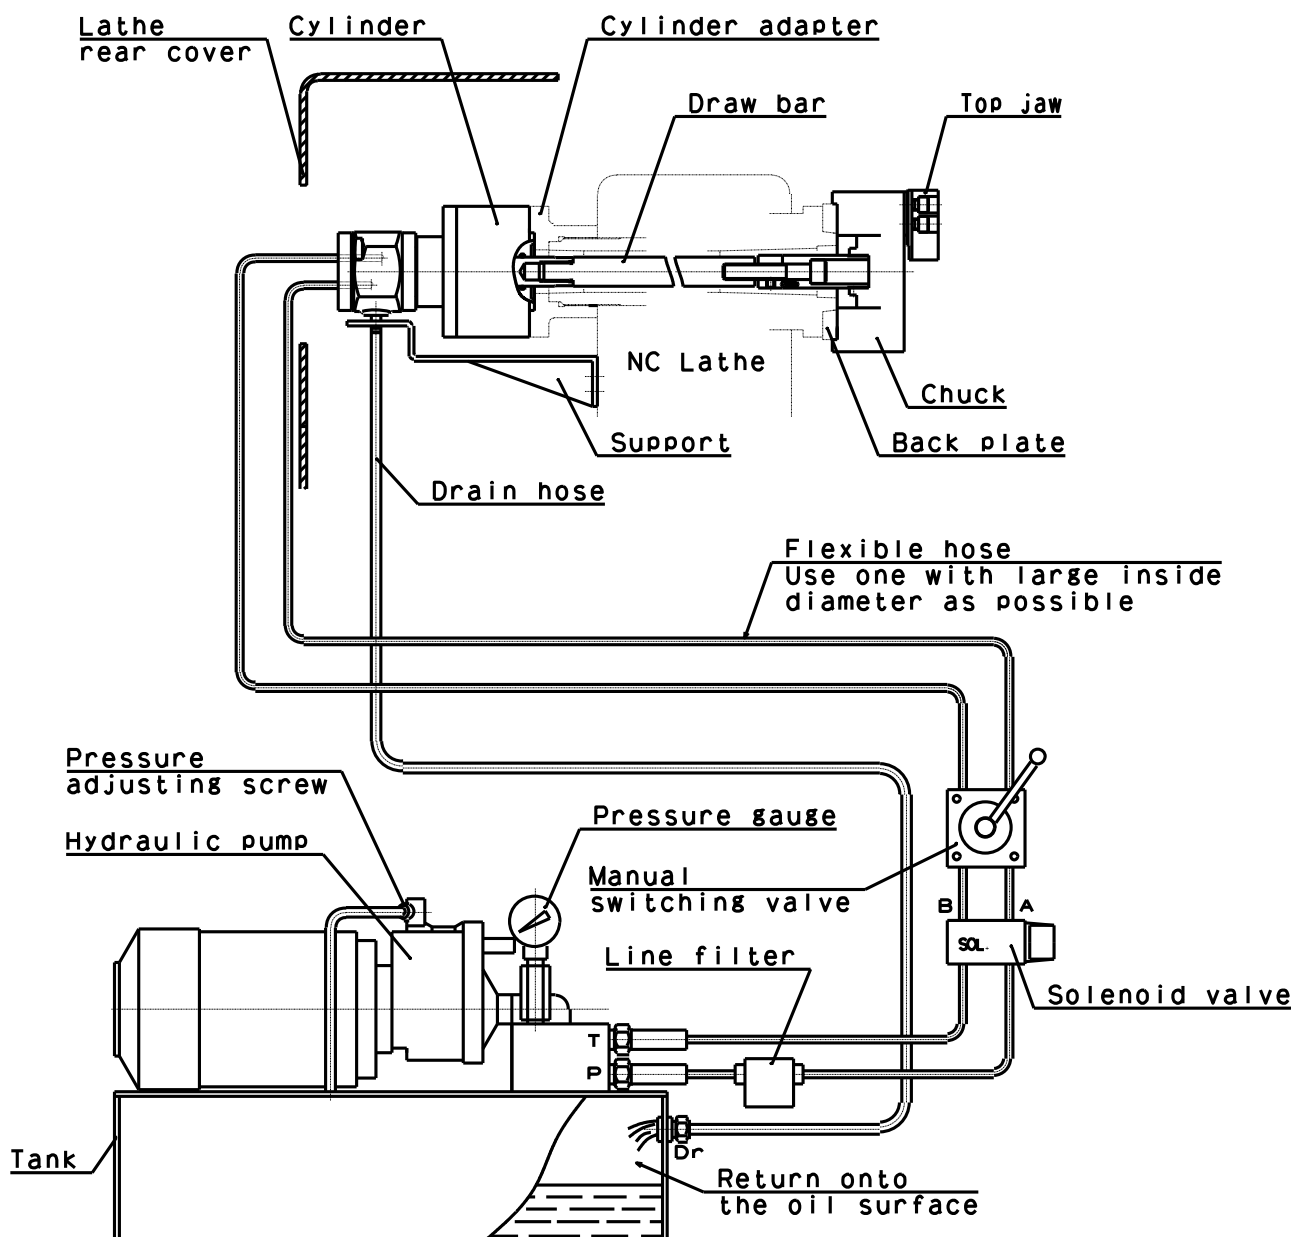

Fig. 8
- **The end of the hose is physically above the oil level. (Refer to Fig.8)**
- Arrange the drain hose to come back to the above of oil tank surface of the hydraulic unit. (Fig.8) If the drain hose is connected to T-port such as valve block, etc., the oil seal of cylinder will damage because backpressure is applied to the hose.